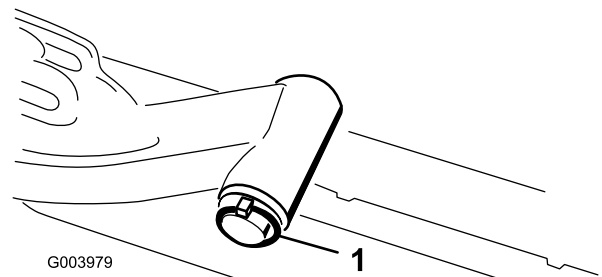

Figure 8
- A. Remove the lynch pin and washer securing the lift arm pivot shaft to the lift arm and slide the lift arm pivot shaft out of the lift arm (Figure 8).
C. Insert the lift arm shaft into the lift arm and secure it with the washer and lynch pin (Figure 8).